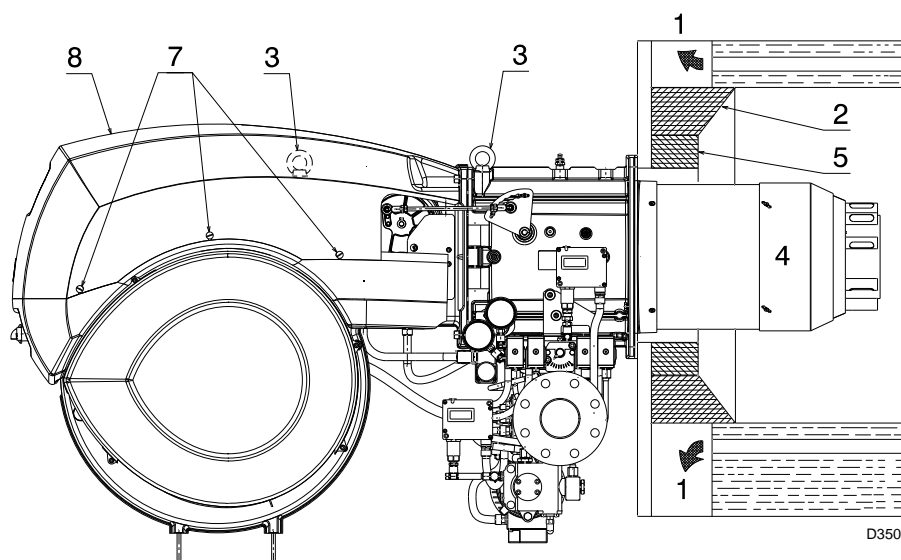

Fig. 12
For boilers with front flue passes 1) (Fig. 12) or flame inversion chambers, protective fettling in refractory material 5) must be inserted between the boiler fettling 2) and the blast tube 4).
For boilers having a water-cooled front the refractory fettling 2)-5)(Fig. 12) is not required unless it is expressly requested by the boiler manufacturer.
Prepare an adequate system of hoisting by hooking onto the rings 3)(Fig. 12).
- Slip the thermal protection (standard equipment) onto the blast tube 4)(Fig. 12).